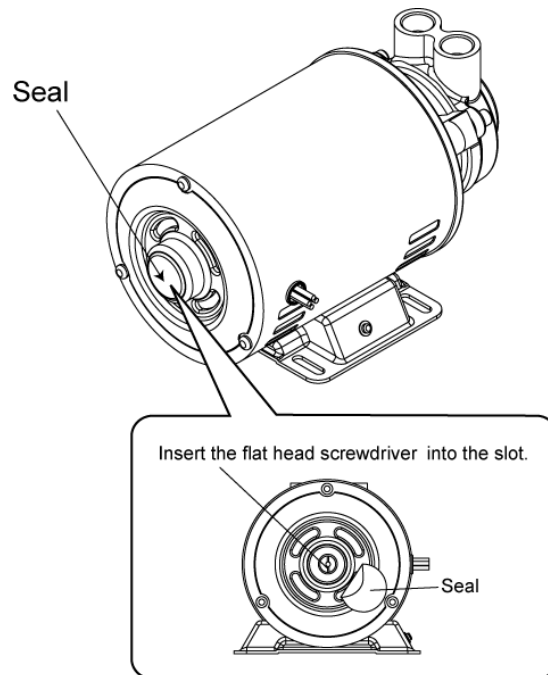

Fig. 4.5-11 Rotation verification of impeller
5. Remove the tape on the back of the motor. Insert the flat blade driver to rotate the motor shaft and check if the impeller rotates smoothly. Re-tape after checking. (Refer to Fig. 4.5-11 Rotation verification of impeller)